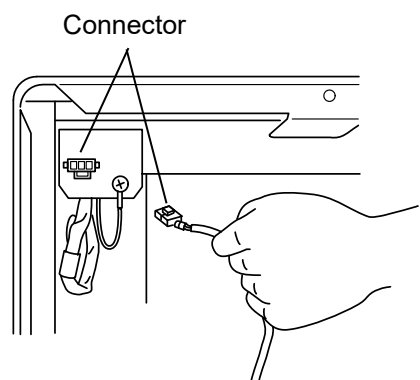

Fig. 3
3. Remove the connector cover on the unit by pushing the lock under the cover. Connect the power supply connector of the temperature recorder with the connector on the unit. [Fig.3]